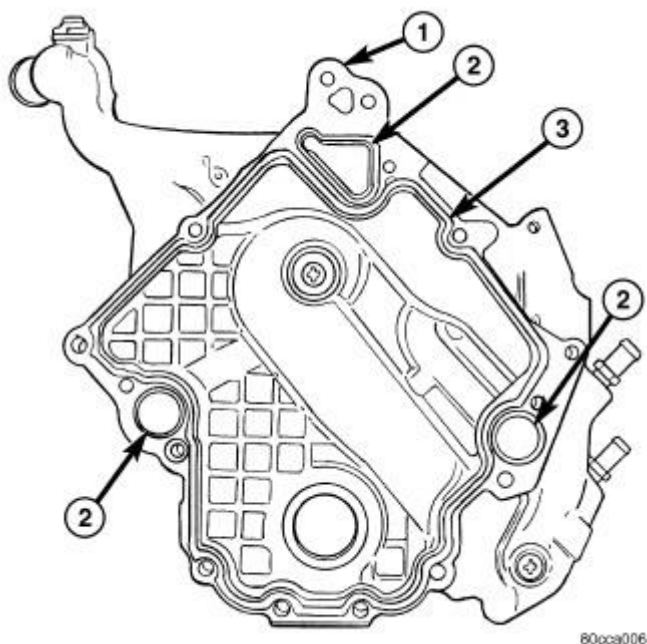

Fig. 180: Timing Chain Cover, O-Rings & Sealant Location
3. Apply Mopar® Grey Engine RTV sealer (3) to front cover (1) following the path provided using a 3 to 4 mm thick bead (3). Refer to **Fig. 180**.